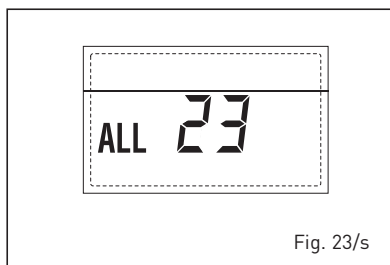

Fig. 23/s
**- NUMBER OF CONNECTED BOARDS ANOMALY "ALL 29" (fig. 23/y)**